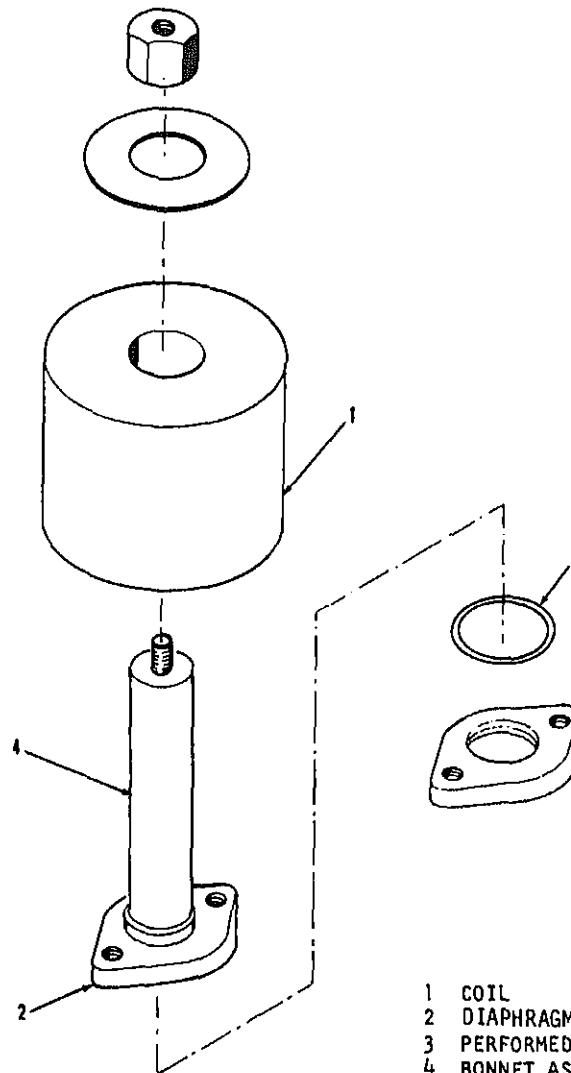

Figure 6-3. Solenoid valve, exploded view
a. General. Replaceable parts are the coil bonnet assembly, diaphragm and the preformed packing. See figure 6-3.
(1) Remove electrical connector from solenoid valve leads.
(2) Remove nut on top of valve housing. Lifting housing and coil assembly from bonnet assembly.
(3) Remove coil from housing.
(4) Install coil bottom plate edge upward.
(5) Install lower coil sleeve flange at bottom. Install coil wire lead exits at bottom.
(6) Install coil spring with edges upward and upper coil sleeve